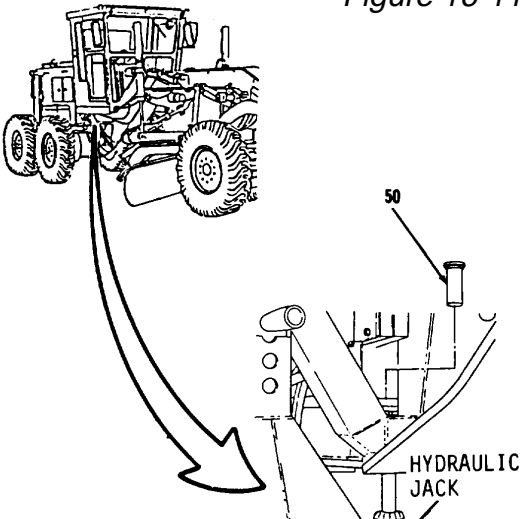

Figure 16-13.
- 24. Using a hydraulic jack, remove bottom pin (50, Figure 16-13).